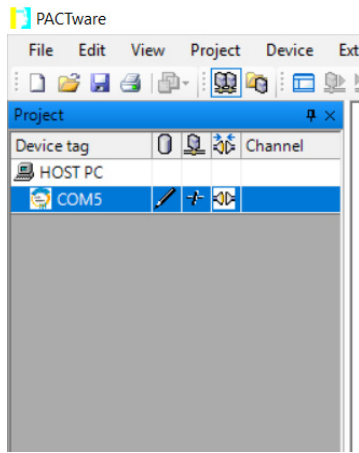
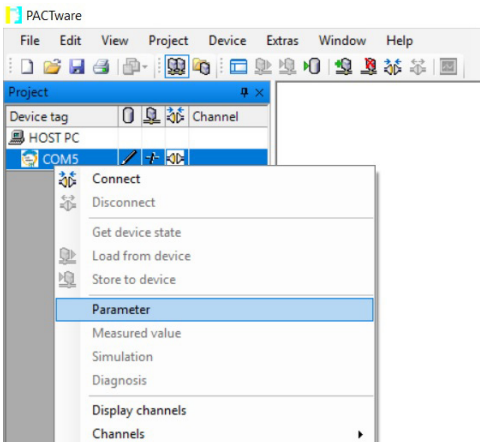

Figure 4: View of COM#
Figure 5: View of Parameter Setting
- 4. Within the Project window, right click on the Communication option, COM#, then select the Parameter option as shown in Figure 4 and Figure 5.